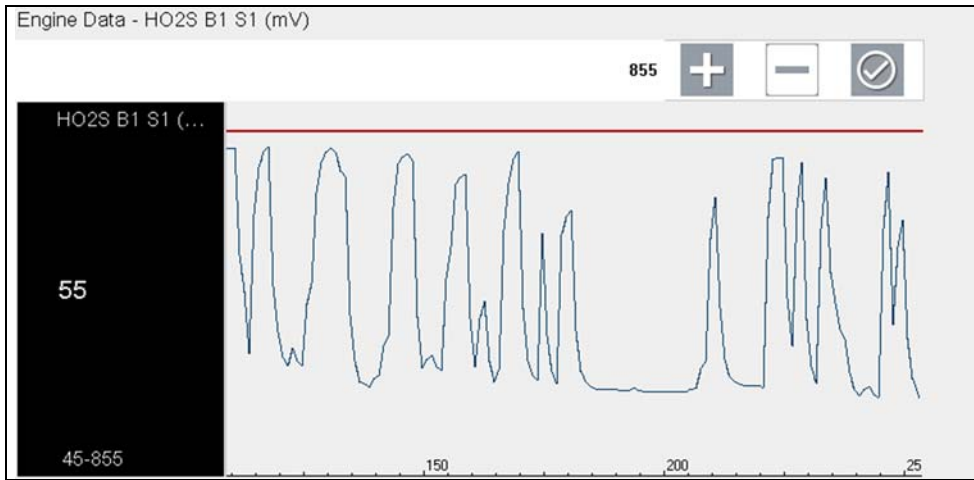

Figure 4-29 Trigger setup - upper limit
A graph of the highlighted PID and setup icons display (*Figure 4-29*).
The upper trigger point must be set first. A red horizontal line is displayed across the data graph (*Figure 4-29*) representing the upper trigger point.
4. Use the plus (+) and minus (-) icons (*Figure 4-29*), or the up ▲ and down ▼ arrow buttons to change the position of the upper trigger point.